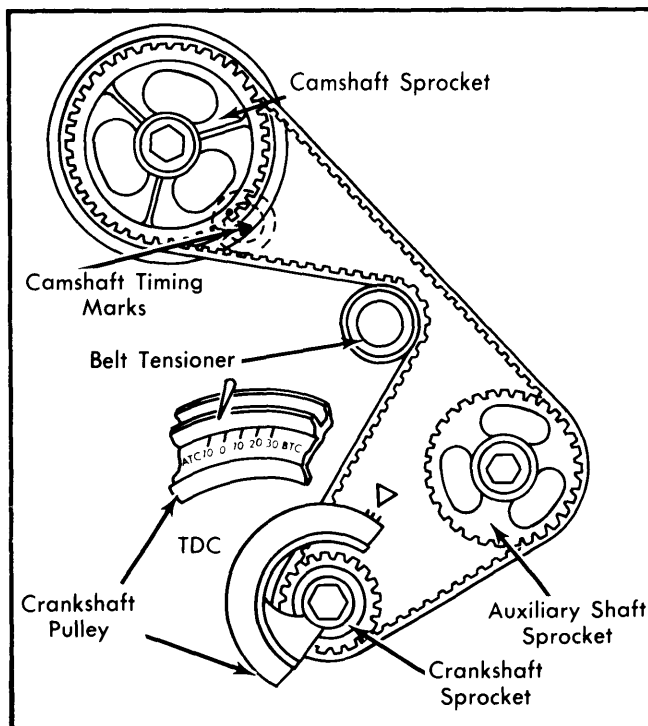

Fig. 6 Camshaft Belt Sprocket Alignment
2) Position crankshaft sprocket and camshaft sprocket as shown in Fig 6. Remove distributor cap and set rotor to No. 1 firing position by turning auxiliary shaft. Install drive belt over crankshaft sprocket and then counterclockwise over auxiliary and camshaft sprockets. Align belt in middle of sprockets.